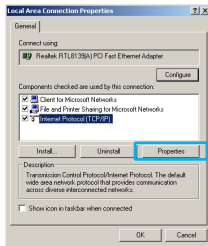

Figure 3
3. At the <Local Area Connection Properties> dialog box, select the **Internet Protocol (TCP/IP)** in the 'Components checked are used by this connection' list and click **Properties**. (Figure 3)